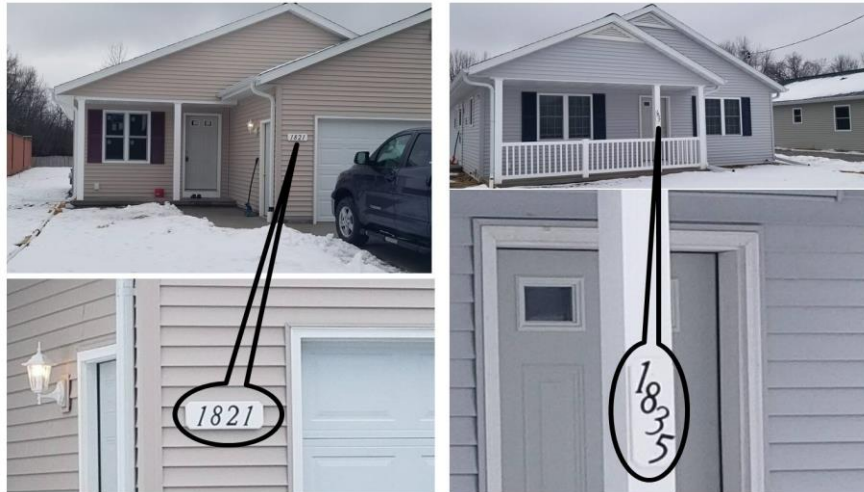

Figure 20-2. House Numbers Installed on a Board.
4. Attach the numbers to the board using 1¼” finish nails supplied with the house numbers (see Figure 20-2). For a horizontal orientation, arrange the numbers so they are centered horizontally and vertically and equally spaced. For a vertical orientation, arrange the numbers so they are equally staggered vertically and horizontally.